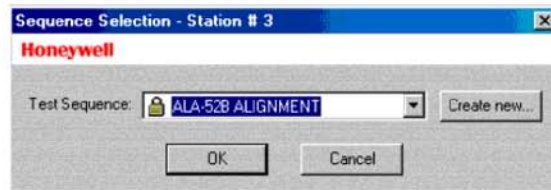

Figure 7. ALA-52B Alignment Sequence
- 2 The Sequence Selection dialog will open. Select the ALA-52B ALIGNMENT sequence (see Figure 7).